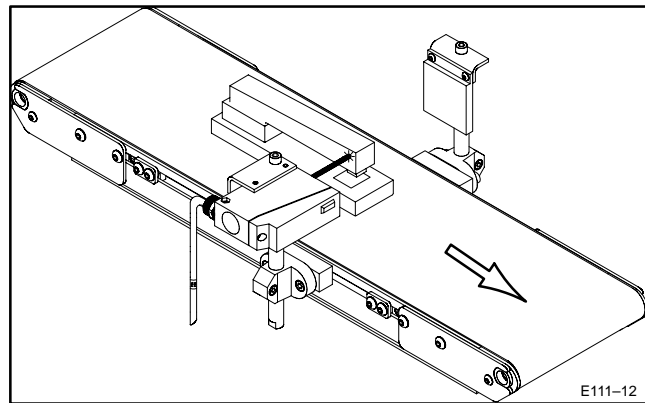

Figure 12: Sample impac & Photo-Eye Application
- Shown here is a sample application using a Photo-Eye to stop a normally running conveyor when a part blocks the Photo-Eye beam (Figure 12).